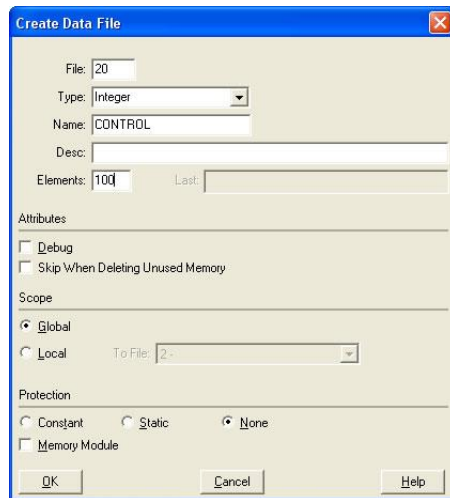

Figure 50: Creating a Control File
- a) Right click Data Files and select New... The “Create Data File” dialog box appears (refer to Figure 50).